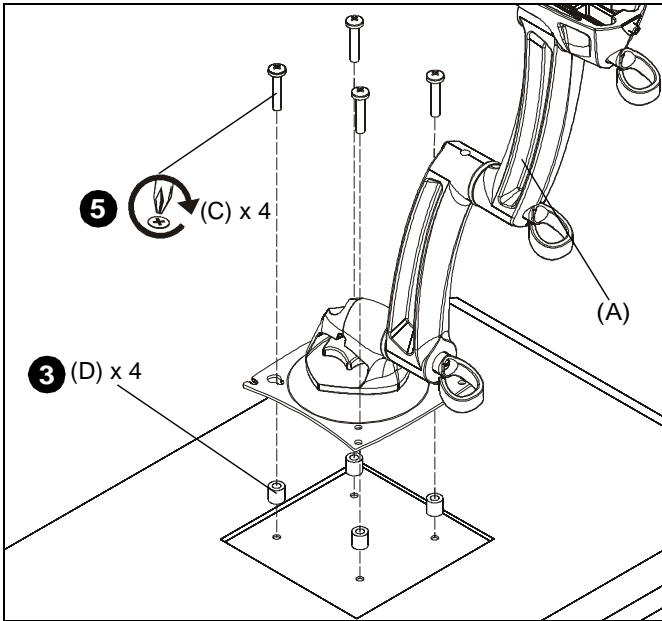

Figure 4
3. Place the four spacers (D) over each of the mount holes on the back of the display. (See Figure 4)
4. Pick up and orient the mount (A) so that the mounting holes are aligned with the holes in the spacers; rotate the bracket as required. (See Figure 4)
5. Using Phillips screwdriver, install four M4x25mm screws (C) through the mounting holes, through the spacers and into the display. (See Figure 4)